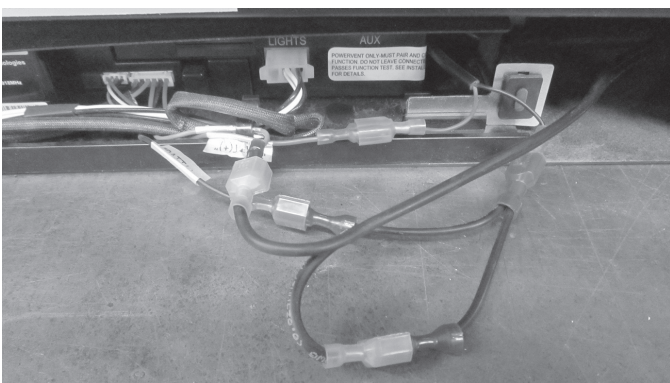

Figure 6.11
11. Install the male connectors from wire (SRV30007499) to the brown wire coming of the 6 pin wire harness on the IFT control and to the splitter. See Figure 6.11.